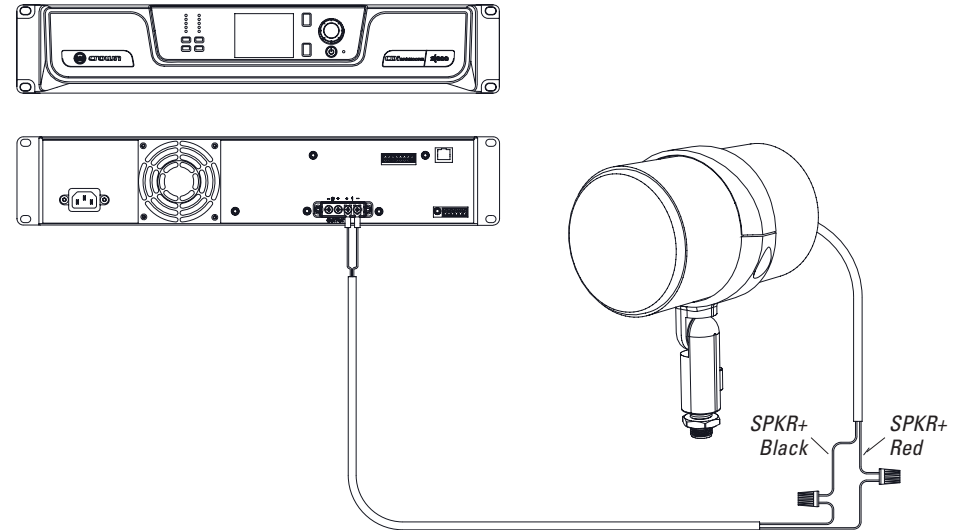

Figure 21
- Connect the red (+) speaker input pigtail wire to the (+) wire from the amplifier speaker output, and the black (-) speaker input pigtail wire to the (-) wire from the amplifier (see Figure 21). Use crimp connectors or wire nuts for the connection. For greater reliability make the connection inside an underground IP65 waterproof electrical junction box.